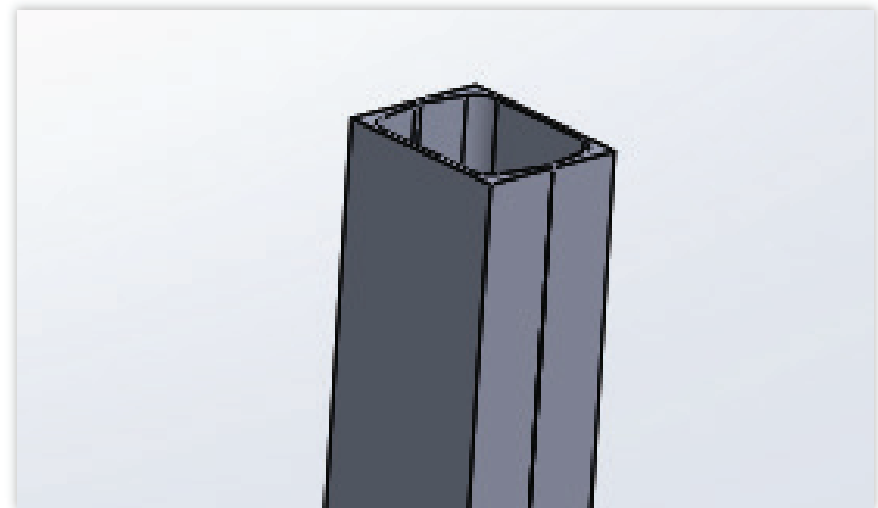

Fig. 15
- Set the simplified version of the assembly to use the simplified version of each component. This way, the holes are no longer visible and are not included in rebuilds. See Fig. 15.